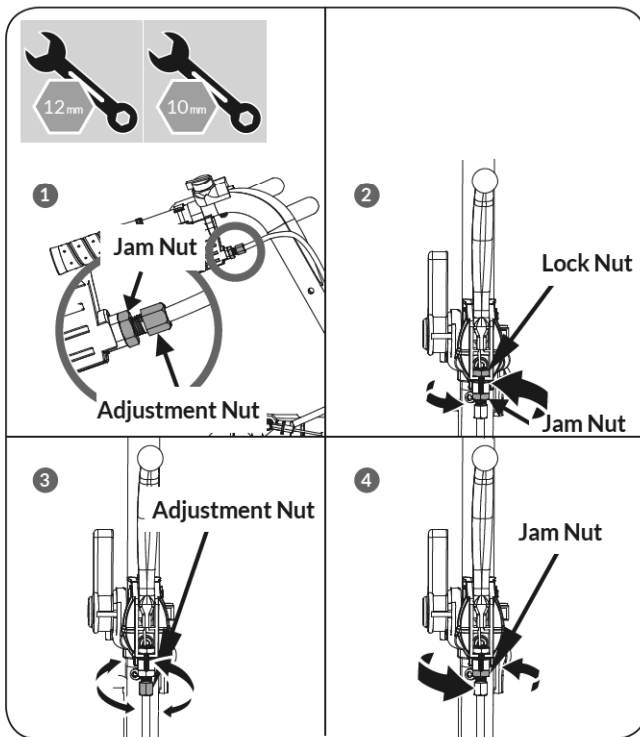

Figure 8b
1. Loosen the jam nut by turning it counter clockwise with 12mm wrench while holding the lock nut in place with 10mm wrench. (**See Figure 8b, Illustration 2**)
2. While holding the lock nut in place with a 10mm wrench, tighten (or loosen) the cable by turning the cable adjustment nut clockwise (or counter clockwise) with a 10mm wrench until you have reached your desired tightness. (**See Figure 8b, Illustration 3**)
3. Once you have reached your desired cable tightness, tighten the jam nut by turning it clockwise until it is tight against the lock nut. (**See Figure 8b, Illustration 4**)